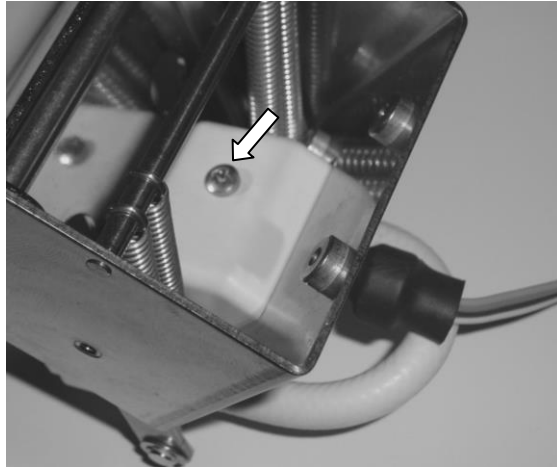

Figure 9 – Shunt Switch Cover
- 4.12 With the shunt door still closed, locate and remove the shunt switch cover screw using the arrow in Figure 9 as reference. Retain this screw.